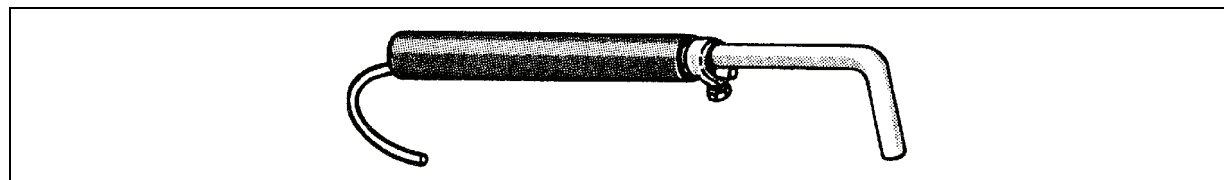

Figure D-3. Static Discharge Wand and Hook
- Bend the last two inches of the rod 90 degrees to form a hook to connect to the helicopter cargo hook (Figure D-3).